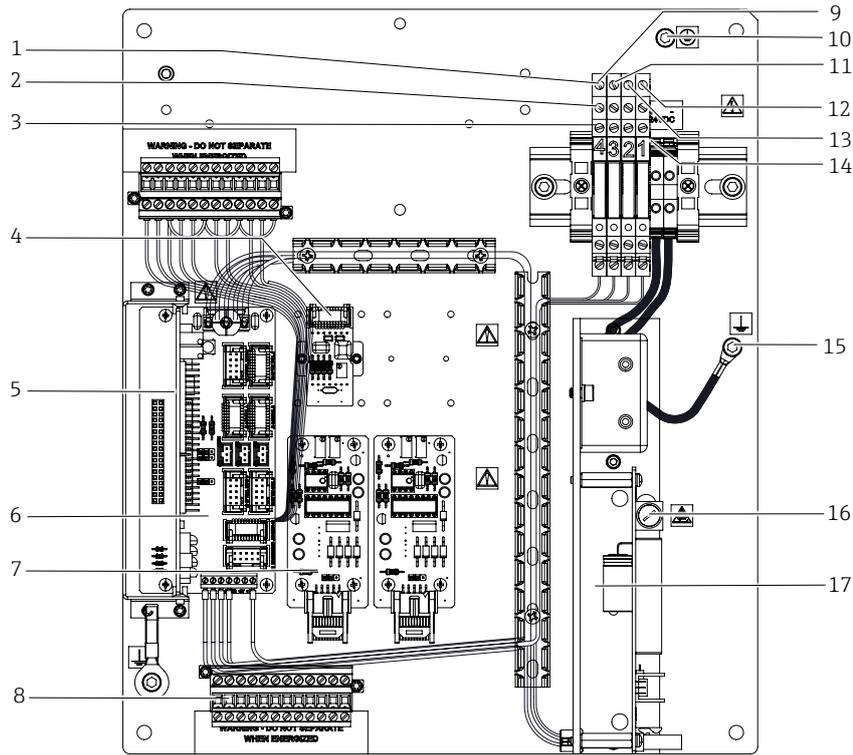

Figure 7: Analyzer B e-series electronics control board (1 channel, DC) showing signal terminal block and alarm relays
2. Open the electronics enclosure. Refer to Figures Figure 3 to Figure 7 for fuse locations.